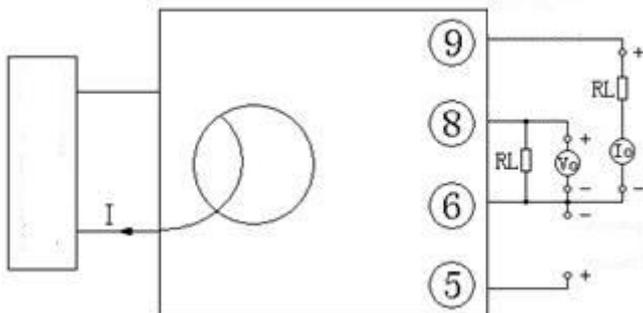

Figure 6, test wiring diagram of product accuracy.
- ①①①A high-precision high-current meter calibrator can directly input current as shown in figure 6, and record the display data of the meter calibration instrument.
- ② There is no high-current high-precision instrument calibrator, but an ordinary high-precision instrument calibrator. Use ampere-turn method to output small current (5A, 10A or higher), and input it to the transducer input coil. The precision ammeter is tandem connection to the calibrator output end to detect input current, and convert the input current I value according to the ampere-turn method.